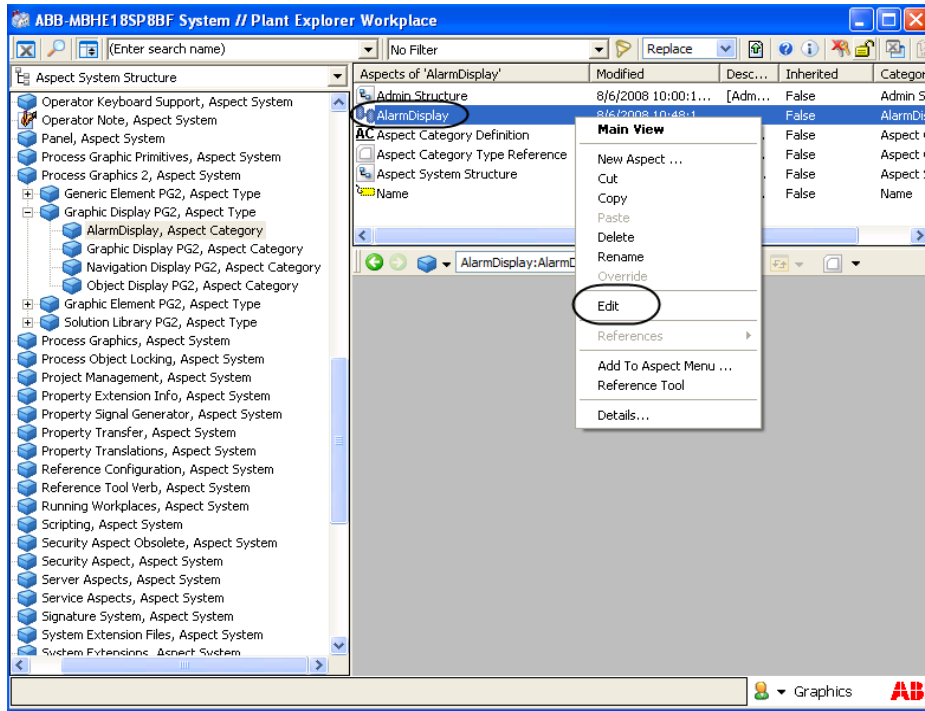

Figure 261. Context menu of the new aspect
12. Right-click the newly created aspect and select **Details** from the context menu as shown in Figure 261. The **Details** dialog appears.